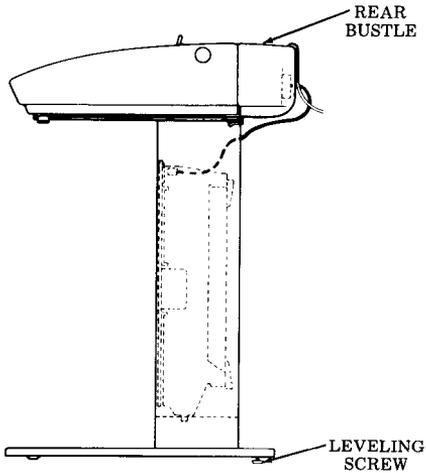

Fig. 5
3.13 Stabilize the terminal by adjusting the left or right pedestal leg leveling screw. See Fig. 5.